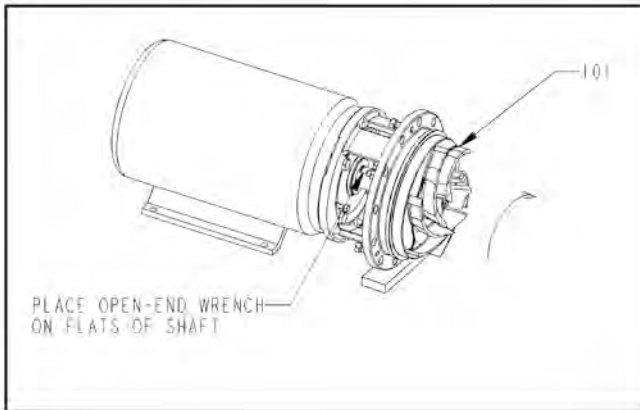

Figure 72:
35. Install impeller (101) with 0-ring (412A). Put shaft wrench shaft. When impeller (101) makes firm contact with sleeve (126), raise shaft wrench (counterclockwise when viewed from impeller end of shaft) and slam it down (clockwise when viewed from impeller end of shaft). A few sharp raps will tighten impeller properly (Fig. 72).